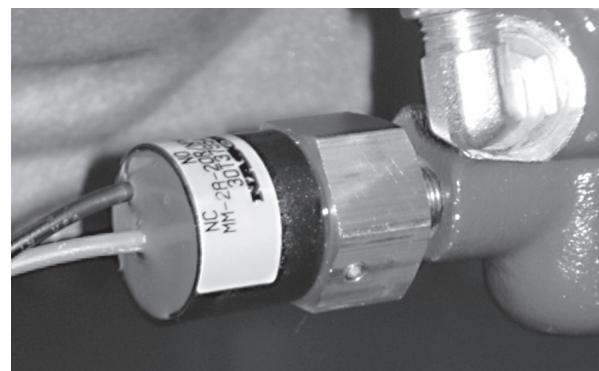

Figure 7. Pressure Switch installed.
7. Remove the red plastic plug and pressure switch. Install and position the pressure switch as shown in Figure 7.